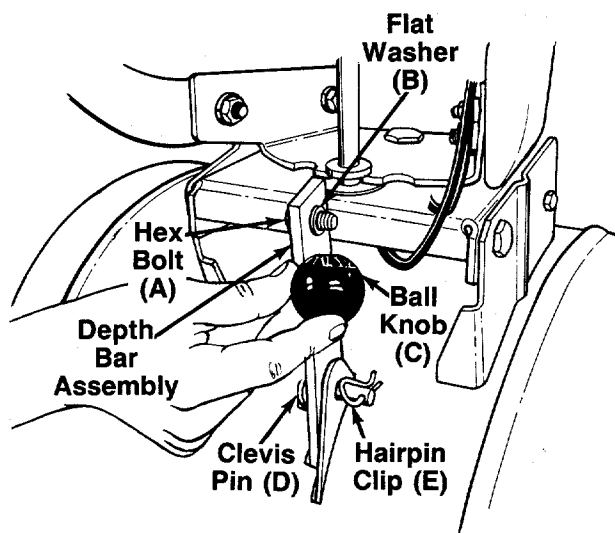

FIGURE 4.
2. Insert clevis pin (D) through the tine shield and depth bar assemblies. Secure with hairpin clip (E). See figure 4.
3. Insert hex bolt (A) into the upper hole of the depth bar assembly. Place flat washer (B) onto the hex bolt and thread ball knob (C) onto the hex bolt. See figure 4. Tighten securely.